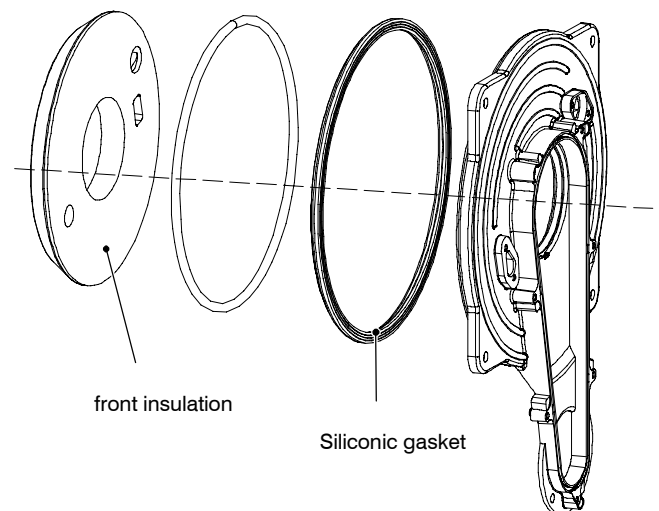

Fig. 18.6
- 3 Remove the front insulation panel (Fig. 18.6).
The siliconic gasket (Fig. 18.6) must be replaced if damaged or anyway every 2 years.
The front insulation (Fig. 18.6) must be replaced if damaged or wet